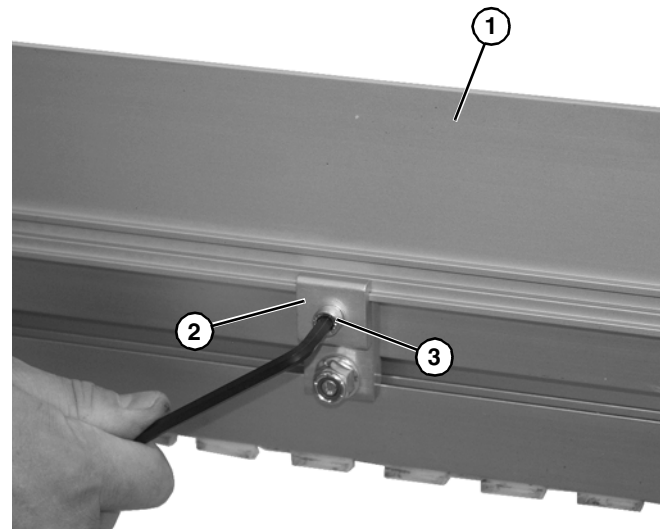

**Figure 29**
3. Fasten retaining clip (**Figure 29, item 1**) to conveyor with nut (**Figure 29, item 2**) on stud.
*Be certain that slot (**Figure 29, item 3**) is close to vertical when finished tightening nut.*
4. Tighten nuts (**Figure 29, item 2**).